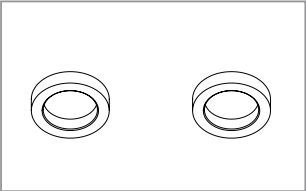

Figure 3 - 4029 Kit
- 4029 Ø10 x Ø14.5 x 3w Pivot Spacer Kit (Fig. 3)